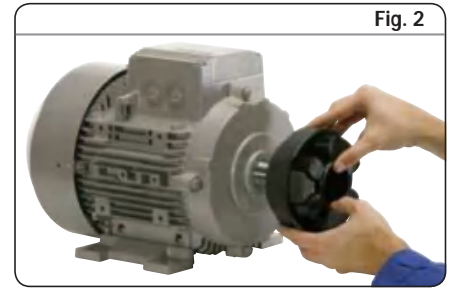

Fig. 2
- 2 Insert the coupling element into one side of the coupling († fig. 2).